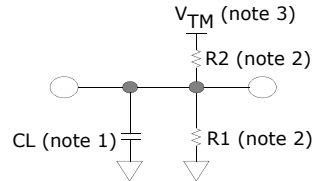

Figure 79. AC Output Load
- Output load (See Figure 79): CL= 30pF+1TTL